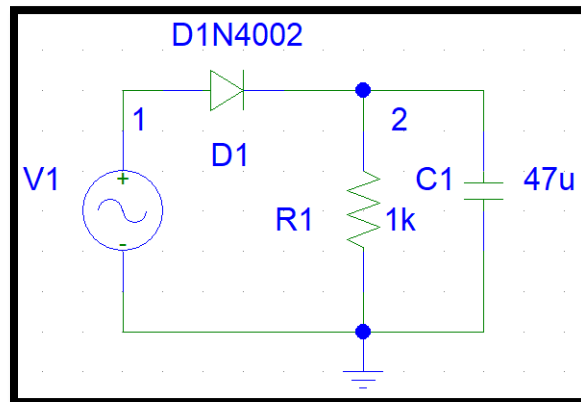

Figure2: Peak rectifier/detector
- ❑ Consider now the peak rectifier shown in Figure 2, where a capacitor is added at the output.